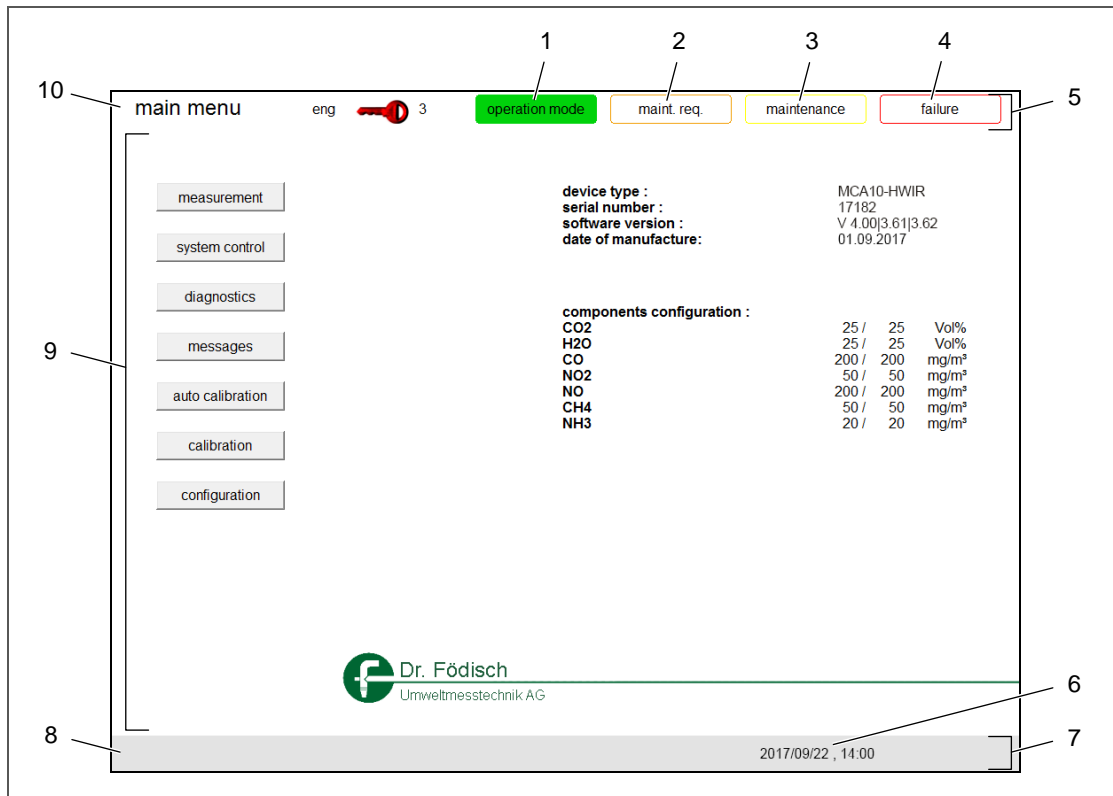

Fig. 20: General screen design (main menu for example)
At the right side of the upper status bar the status information (1 to 4, Fig. 20) for operation, maintenance requirement, maintenance and failure is visualised. Depending on mode or possibly upcoming failure the respective field is coloured.
The current date and the current time (6, Fig. 20) are displayed at the right side of the lower status bar.
In case of an active maintenance or an upcoming failure of the communication status of the MCA 10 HWIR an additional message (8, Fig. 20) is displayed at the left side of the lower status bar. In normal operational state the display does not contain any messages.
The main area (9, Fig. 20) in the middle of the screen varies depending on the menu selection. The content of the currently selected menu is displayed. For orientation the name of the selected menu (10) is displayed at the left side of the upper status bar.